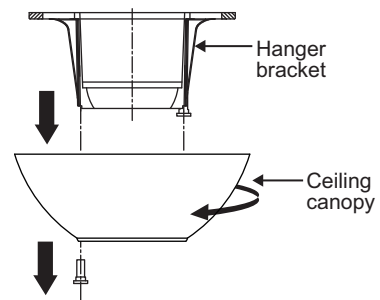

Figure 6
Step 1. Remove the hanger bracket from the canopy by removing the 1 of 2 screws from the bottom of the hanger bracket and loosening the other one a half turn from the screw head. Next, turn the canopy counter clockwise to removing the hanger bracket from the canopy. (Fig. 6)